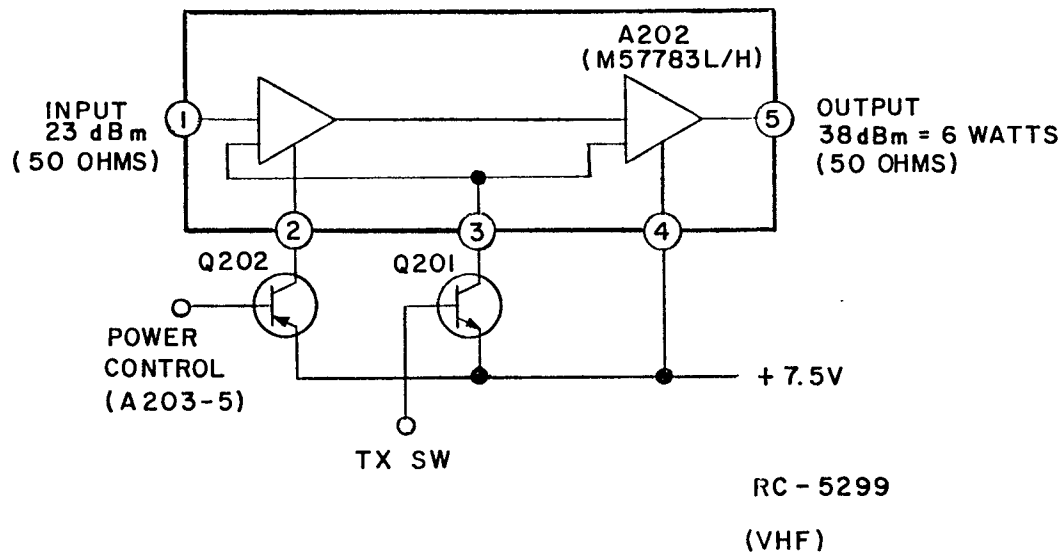

Figure 4 - Power Amplifier (PA)
Power Amplifier (PA) A202 is a three stage, wide band amplifier module with an input and an output impedance of 50 ohms (refer to Figure 4). The first stage of the PA module has the DC power supplied by power control transistor Q202. The RF power output from Pin 2 of the TX-Amp module A201 is connected through a resistor attenuator to Pin 1 of the PA module where it is applied to the input of the RF power amplifier stages. The RF power amplifier stages amplify the input from the TX-Amp module to a typical power output level of 6 watts at Pin 5. The output at Pin 5 is connected through the power control hybrid IC A203 (PC) and TX-RX switching diode CR201 to low pass filter network FN. A minimum power level of 5 watts is on the output of the filter network.